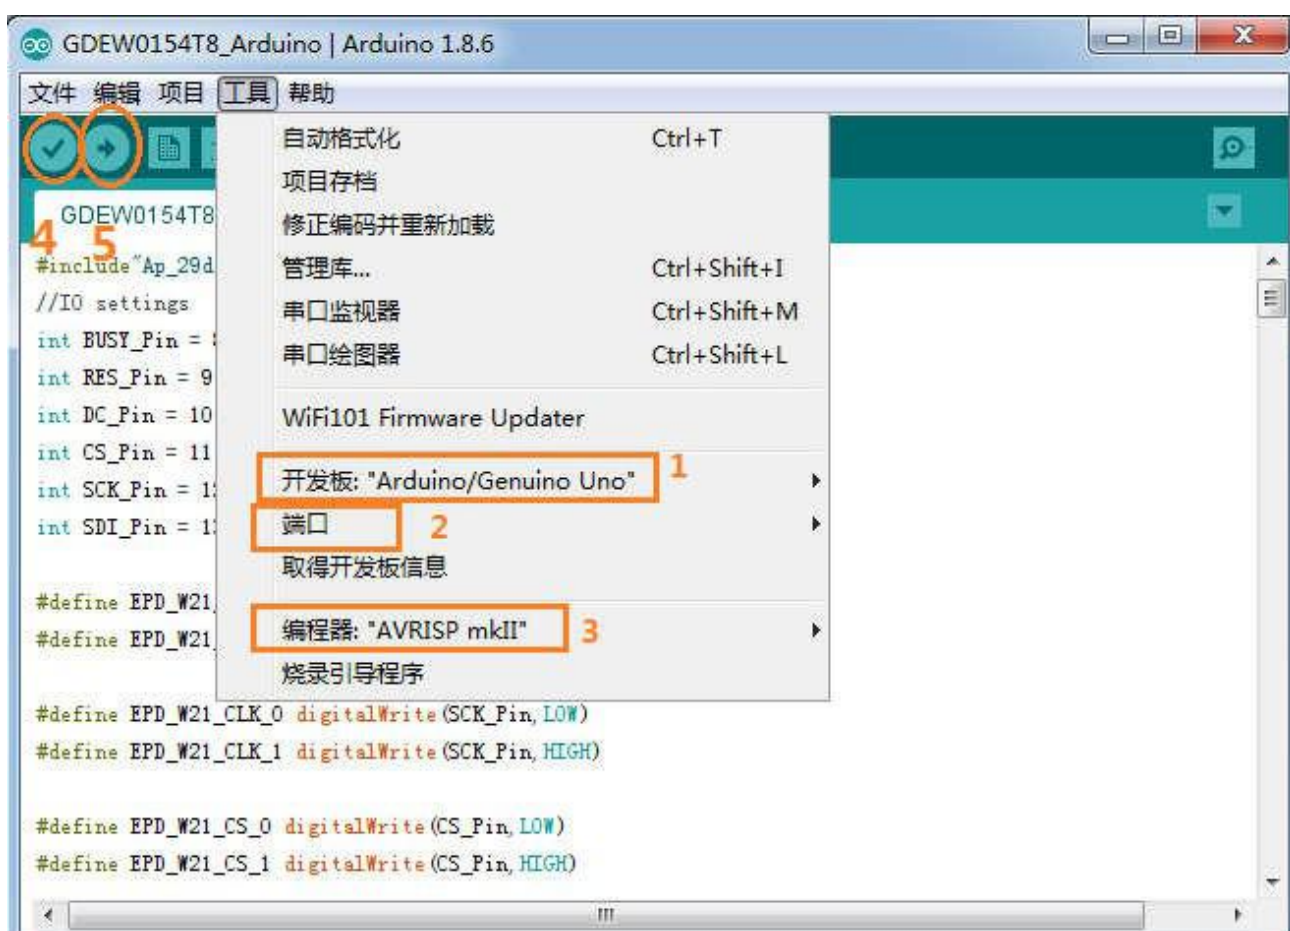

Figure 6 : Steps of downloading program
- 4) Configure in “工具” in Figure 6.
- 5) Select development board model “Arduino/Genuino Uno” in position 1 of Figure 6.
- 6) Select COM port in position 2 of Figure 6.
- 7) Select programmer model “AVRISP MKII” in position 3 of Figure 6.
- 8) Click position 4  of Figure 6 to compile the program.
- 9) Click position 5  of Figure 6 to download the program to development board.